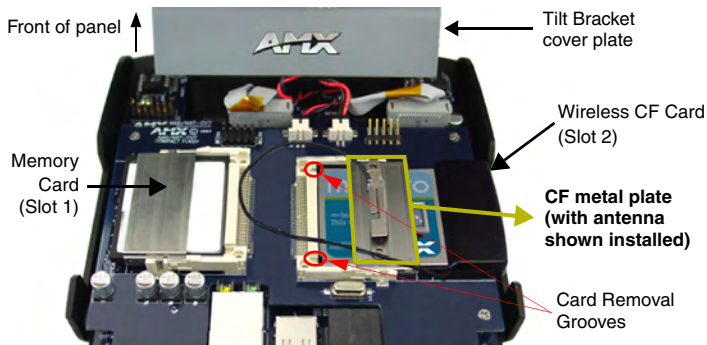

FIG. 8 Location and orientation of the card slots (on both CV7/CV10 panel types)
1. Discharge any static electricity from your body by touching a grounded metal object and then locate wireless card slot on the main board (FIG. 8).
4. Remove one of the included alcohol pads and use it to thoroughly clean both the CF metal cover (FIG. 8) and the metal plate on the underside of the terminal antenna (FIG. 1). These surfaces must be properly cleaned to provide good adhesion for the later installation of the wireless antenna.